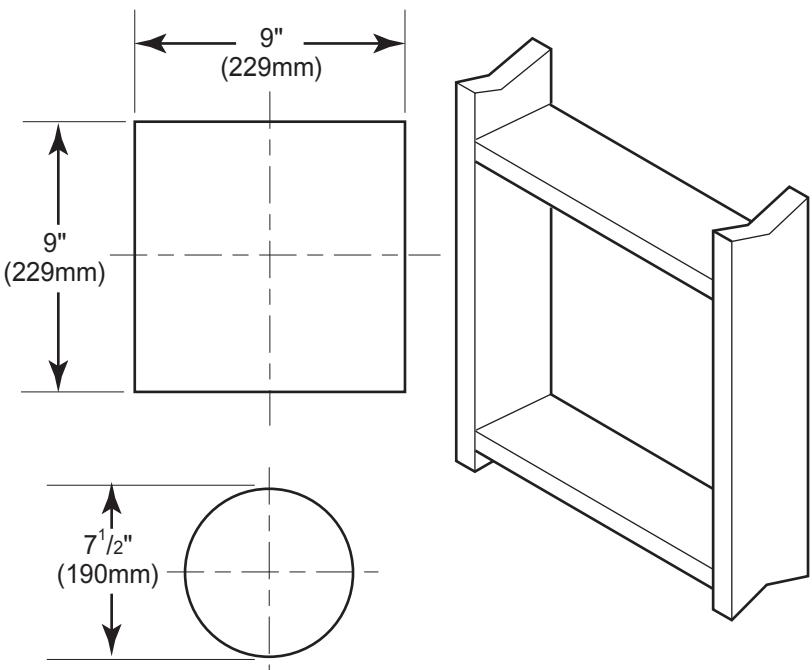

Figure 12 - Vent Opening Requirements
Combustible Walls: Cut a 9 "H x 9 " W (229mm x 229 mm) hole through the exterior wall and frame as shown. See *Figure 12*.
Cut a 9"x9" (229mm X 229mm) square hole through combustible exterior wall (7 1/2" [190mm] diameter hole if noncombustible). Frame as necessary. Allow 1/4" minimum rise per foot. See *Figure 12*.
1. Establish vent hole through the wall. *See Figure 12, page 17.*